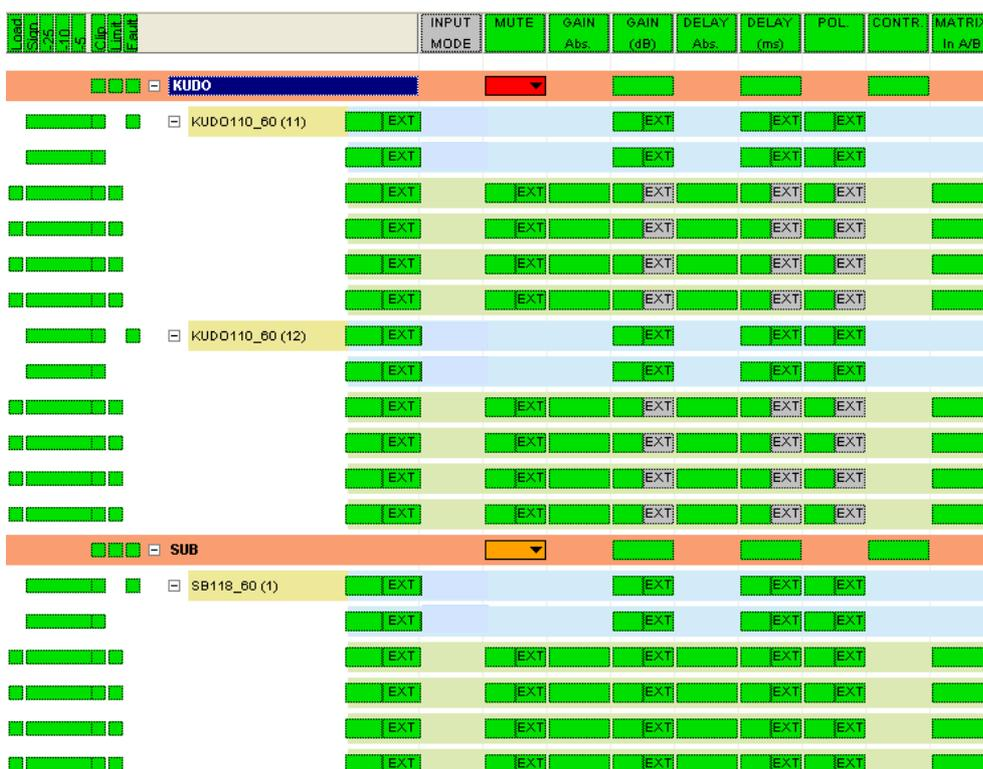

Figure 38: USER Level control window
2. Open the **Edit Visibility** menu and click on the **User Level** function. The **parameter** cells are displayed in the **control window** with the following background color code (see also Figure 38):